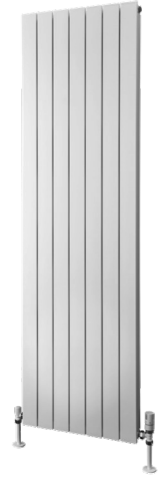

Fig 1
2. Mark up position of brackets at the desired height of the radiator referring to **Fig 1** top brackets measure 80mm in from each side of the radiator and 150mm down from the top of the radiator (Remember to add the desired height for hanging the radiator to the mark made whilst the radiator was standing against the wall). Bottom brackets have two fixing positions, the top part measuring 255mm up from the bottom of the radiator, the lower part 168mm up from the bottom of the radiator and 80mm in from each side. Using a spirit level mark on the vertical lines on bracket positions. Please note these measurements are for the fixing points of the brackets.